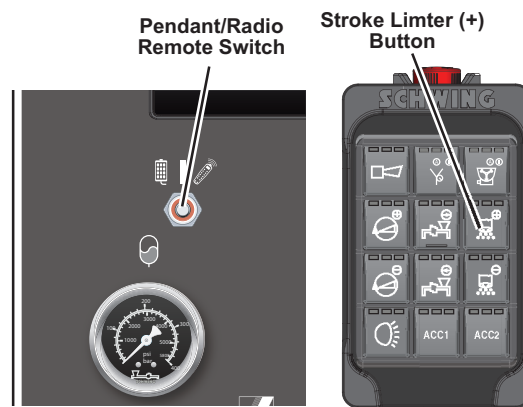

Figure 41
2. At the operator control panel, select pendant control with the pendant/radio remote switch. Press and hold the stroke limiter (+) button on the pendant remote until the stroke limiter is at maximum output (Figure 41).